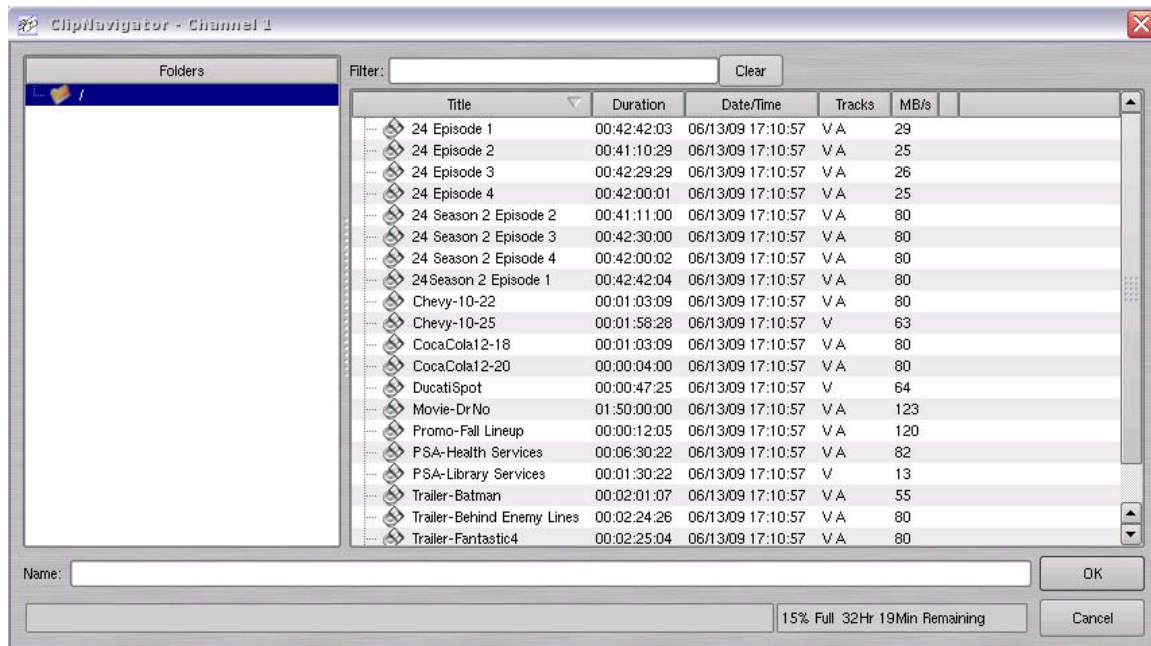

Figure 12 - Channel 1 Clip Navigator "New" mode
- A. From the Channel 1 Transport Window, Select **FILE > NEW**. The dialog of **Figure 12** appears.